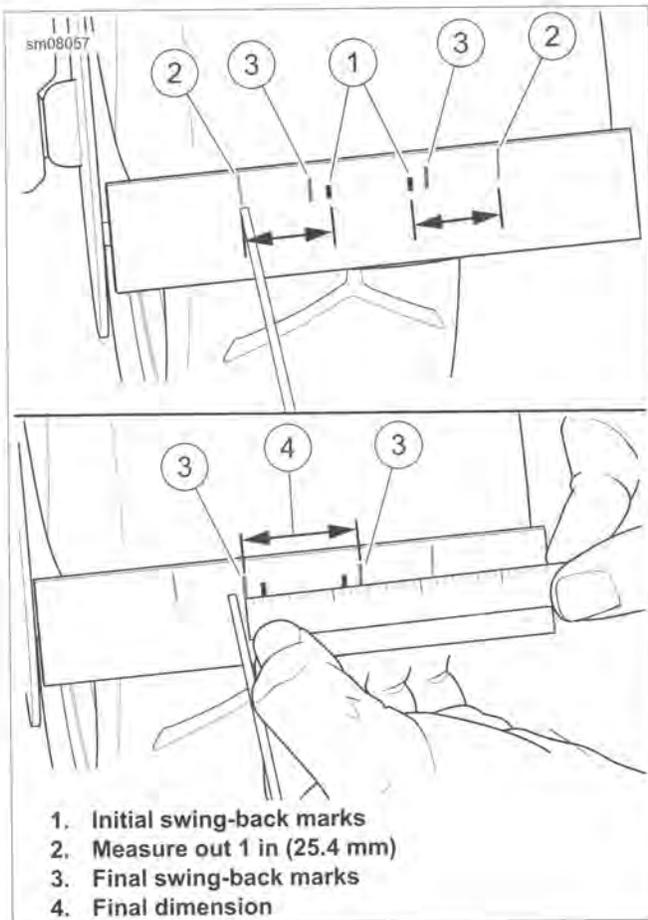

Figure 1-39. Marking and Measuring Swing Points
9. See Figure 1-39. Lightly tap the front tire to the left until it just begins to swing back toward center. Mark the point (1) where it began to swing back.
10. Repeat by lightly tapping the front tire to the right. Mark the point (1) where it began to swing back.
12. Measure outboard 1 in (25.4 mm) from each mark (1). Mark these points (2).
13. Turn the front end until the pointer is at the left mark (2) and release. Mark where the swing stops (3).
14. Turn the front end until the pointer is at the right mark (2) and release. Mark where the swing stops (3).